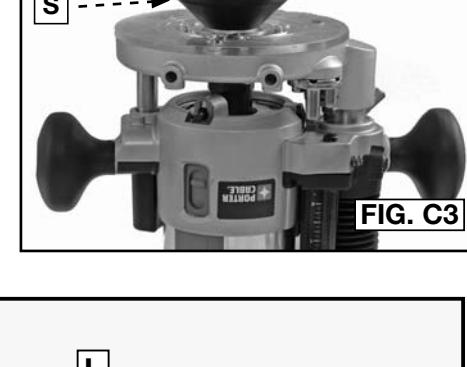

FIG. C3
- Place the cone (S) Fig. C3 on the pin and lightly press down on the router until the cone stops inside the subbase. This will center the subbase.